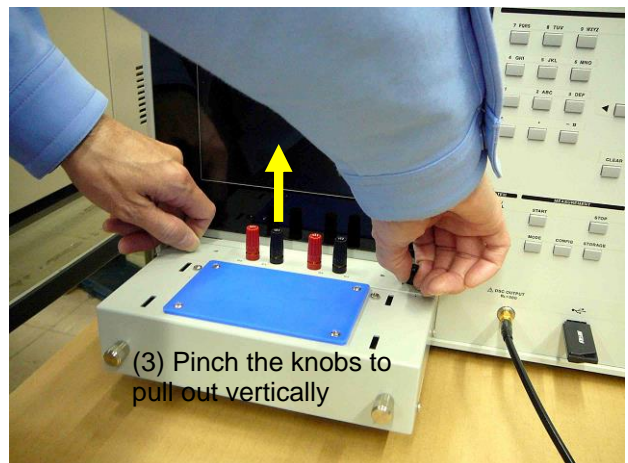

Fig. 4-5 Removing the measurement for terminal block
(3) Pinch terminal block knobs with both hands and pull them out vertically. (See Fig. 4-5)